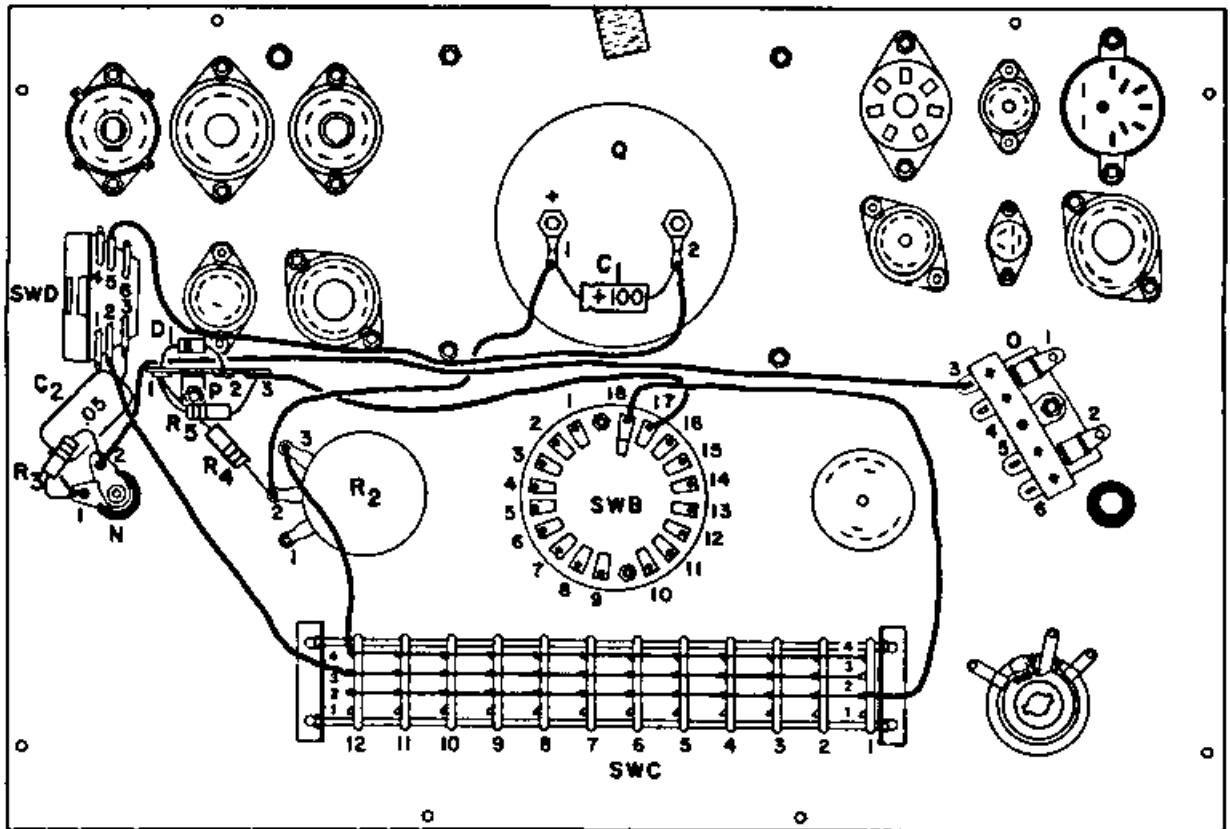

Fig. 9. General wiring, Step 1.
There are several stages to the panel wiring, each stage having only a few simple steps. In the first two stages you will be wiring some of the switches and controls and installing the diode, and resistors and capacitors. For these first two stages it will be easier to position the panel as shown in Fig. 9.
If there is a wire connecting terminals 1 and 2 of the meter (Q), remove it before wiring in the capacitor in Step 1. Be sure that the + end of the capacitor is connected to the terminal marked + on the meter, as shown in Fig. 9.